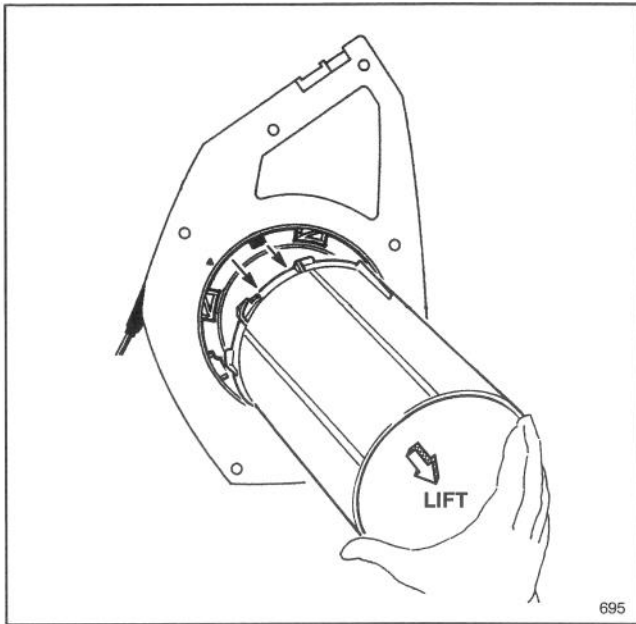

Figure 13
4. Remove the vacuum tube (Fig. 13).